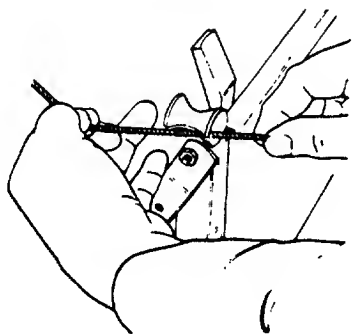

FIGURE 10.
5. If not already assembled, slip the starter rope into the rope guide as shown in figure 10.